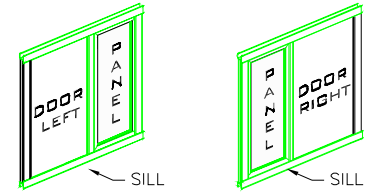

figure 3
6. Decide which side you want the glass panel to sit on (**door on left - glass panel on right OR door on right - glass panel on left**) see figure 3. Insert two(2) setting blocks into the Sill Cavity (your glass panel will sit on these). Take your Glass Panel, set it on top of the setting blocks and slide it into the appropriate Wall Jamb.